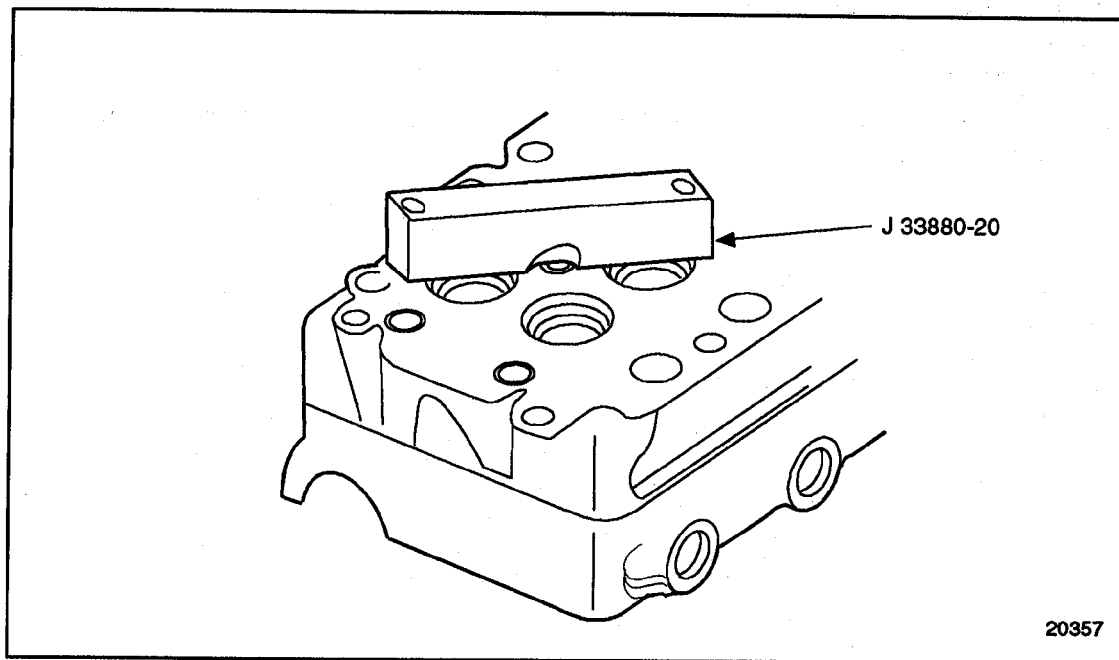

Figure 2-21 Stop Block Installation
15. Install J 33880-20, to the firedeck of the cylinder head using two existing head bolts. Tighten the head bolts, but do not torque. Position the cut out portion of the stop block beneath the injector tube. See Figure 2-21.